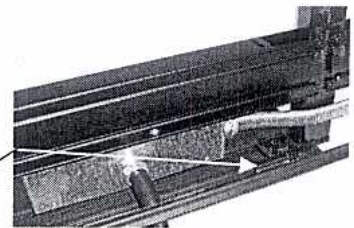

fig 5
6. Install the base cover as usual. Note that the lip that holds the top of the base cover in place will need to be field trimmed so the cover can close completely. Leave about 1-3/4" of lip at the right end and trim the lip to clear the NYBF box. (see fig 5).